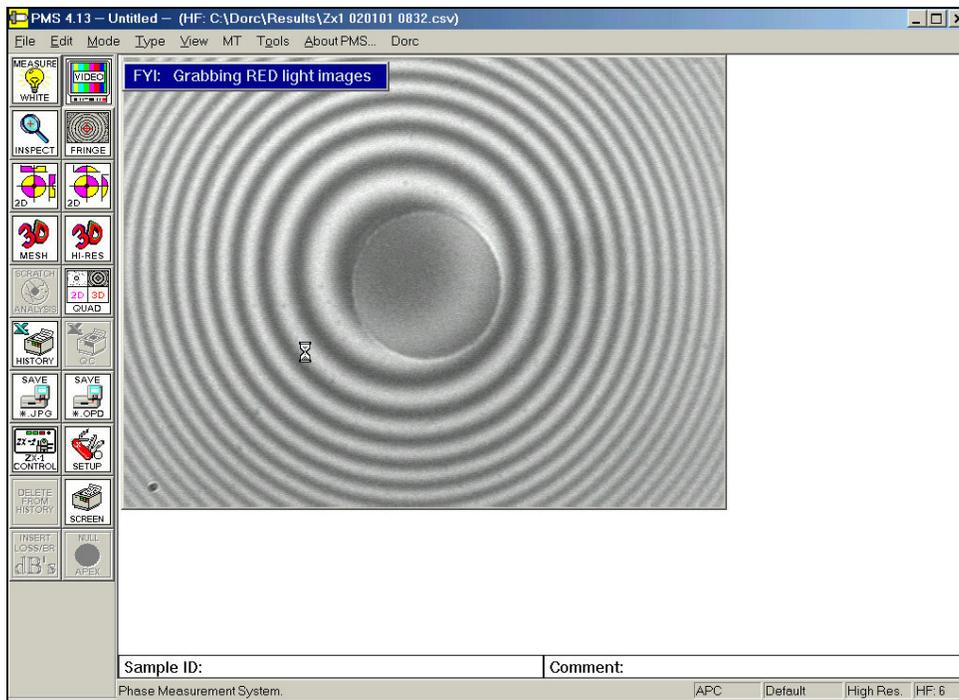

Figure 93.
- Select the Measure White icon  or right click on the mouse. The following dialog box will be displayed as in figure 93.